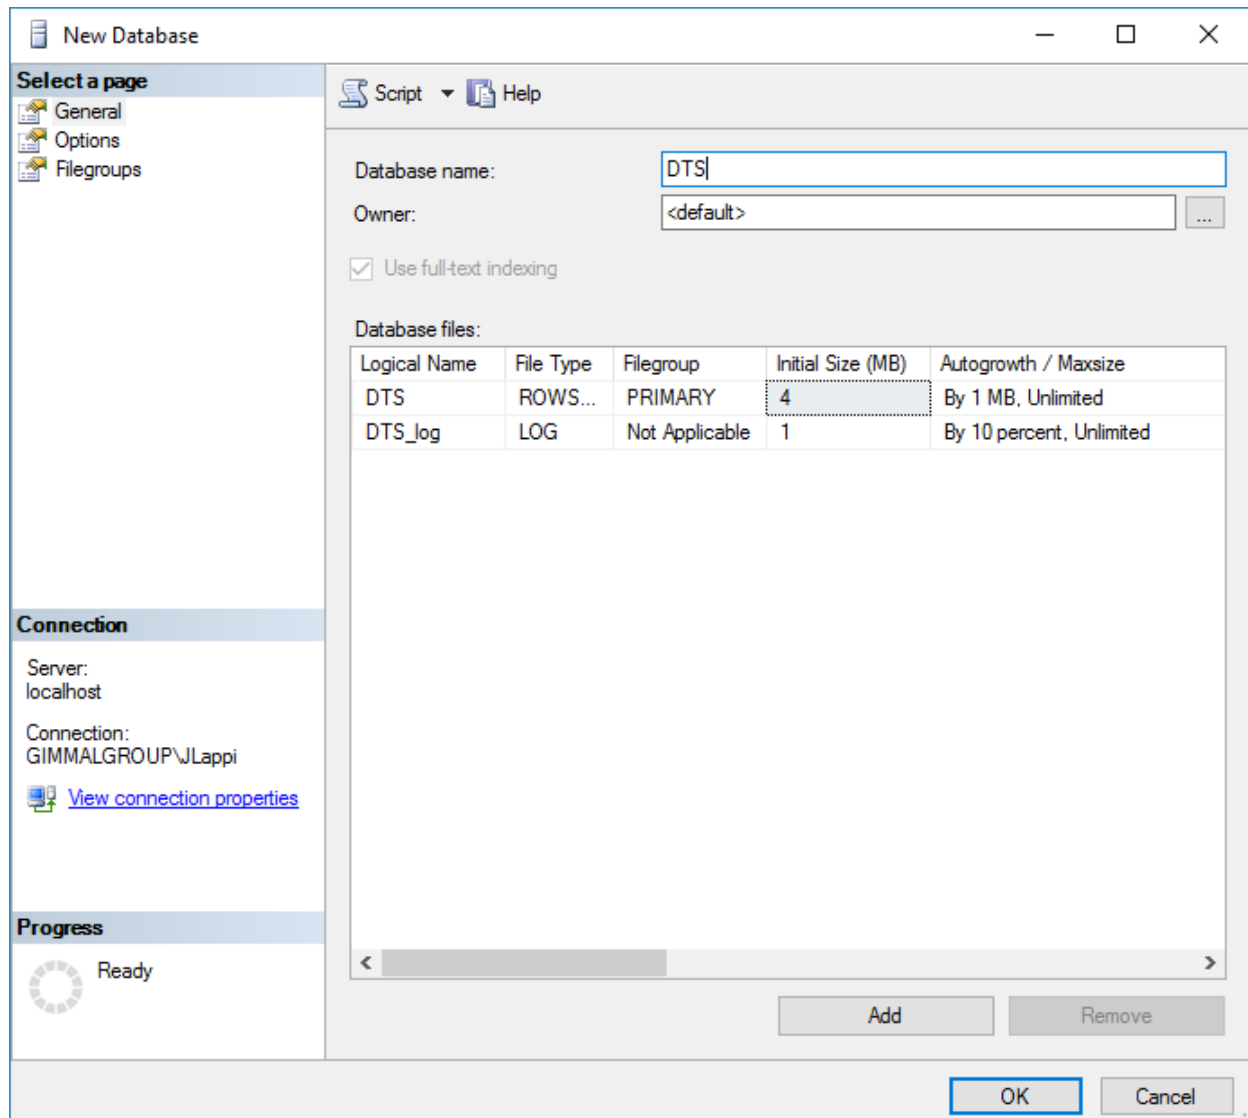

Figure 5-20 Configuring a Document Tracking Service Database in SQL
- Use the SQL server to configure the database as shown in Figure 5-20